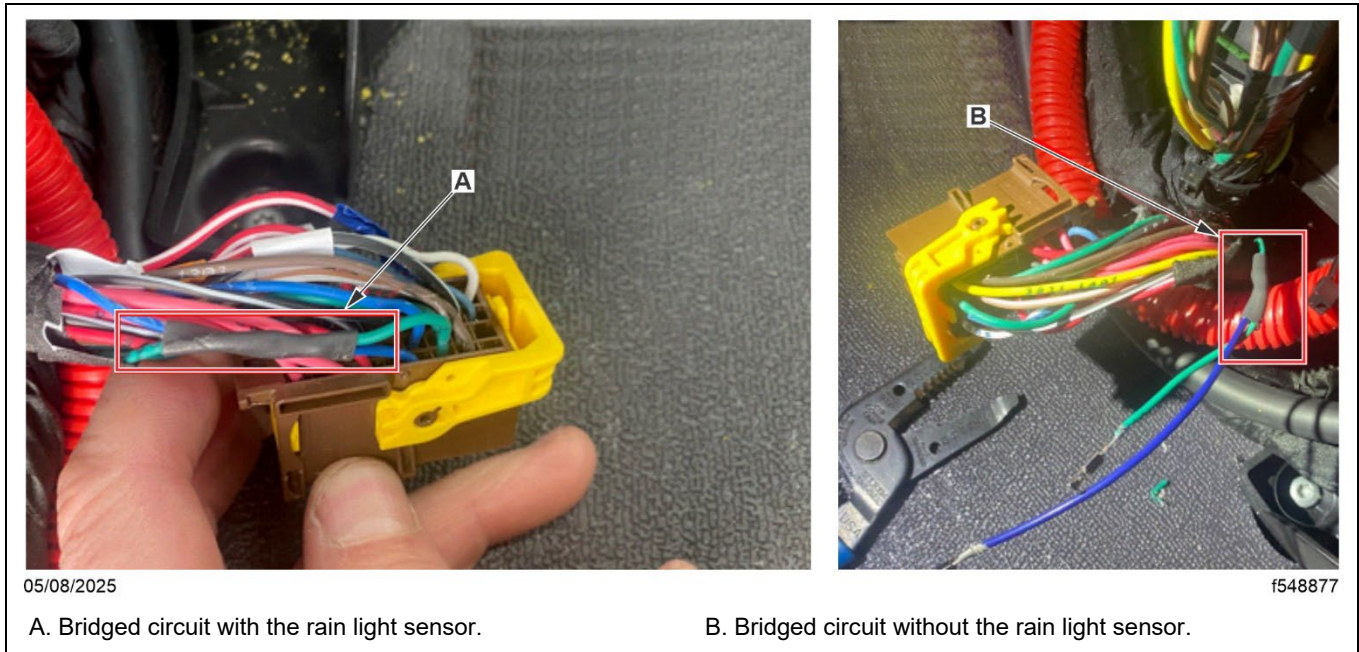
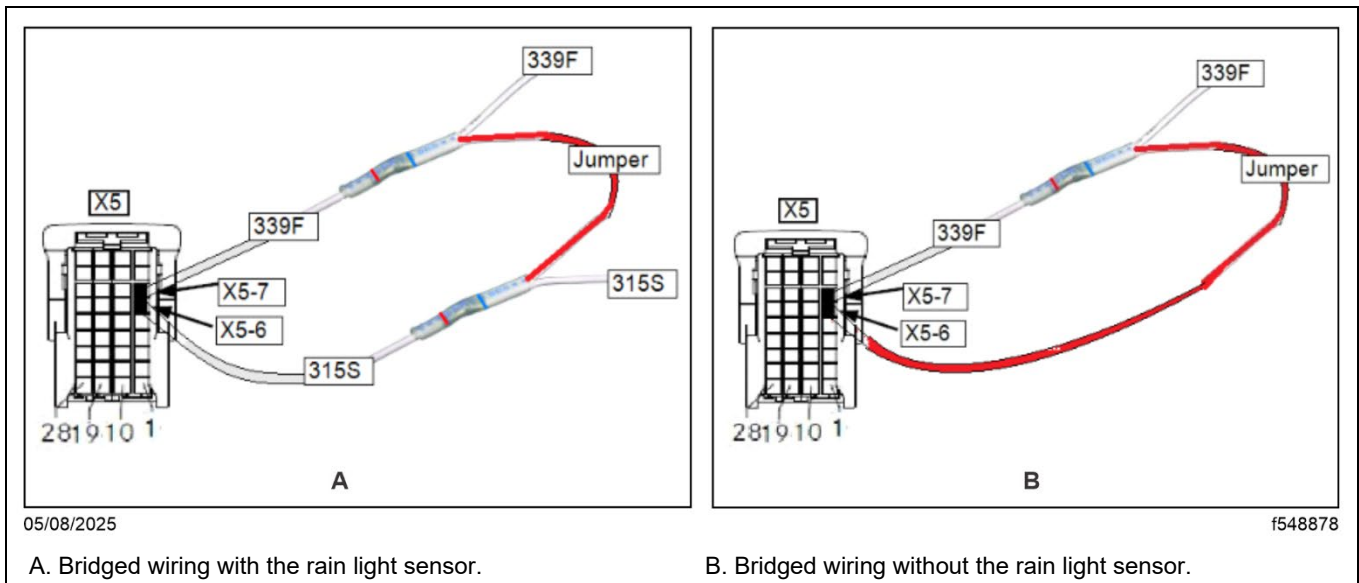

Fig. 2, Examples of Vehicle Modifications Done at Plant
Fig. 3, Modifications Suggested in Service Solutions
15. Inspect the wire harness and terminal cavities X5-6 and X5-7 for modifications that may have been done at the vehicle plant, as shown in **Fig. 2**, or based on the information in **Service Solution SS 3162-FTL** or **SS 775-WST**, as shown in **Fig. 3**. The modification is expected to be within 6 inches of the X5 harness connector.